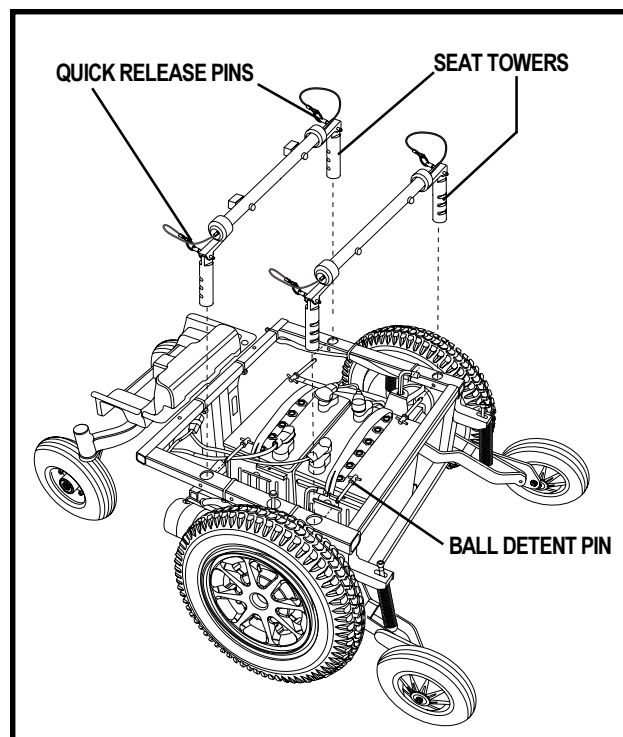

Figure 17. Seat Height Adjustment (Shroud Removed)
6. Remove the quick-release pins from the seat towers (front and rear). See figure 17.
9. Remove the ball detent pin from each of the four seat towers. See figure 17.